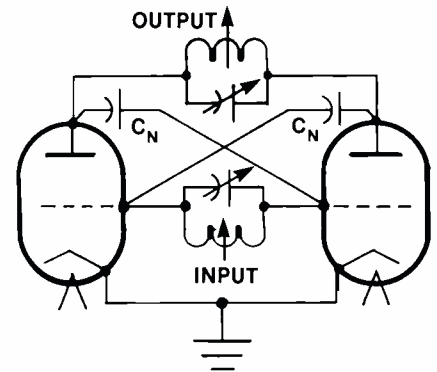

Figure 2. Push-pull (symmetrical) stage neutralization for a grounded-cathode circuit.
Figure 2 illustrates a common symmetrical or push-pull RF stage that is grid-driven with grounded cathodes. If the inductance of the leads is negligible, because of either operating frequency or circuit construction, neutralization can be accomplished by simply cross-coupling the stage. The value of  $C_n$  from each grid to its opposite plate is equal to
**Figure 2.** A case study in which excessive back pressure to the PA cavity during winter periods (when the rooftop damper was closed) was eliminated by repositioning the damper as shown.